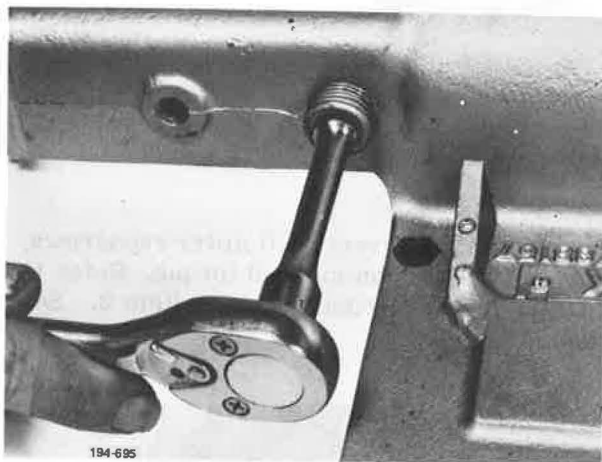

Figure 5-442. Installing Plug
17. Install interlock plunger plug into shift cover. See Figure 5-442.